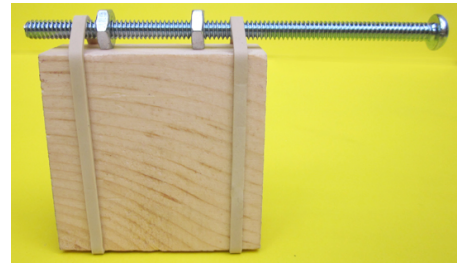

Figure 3
3. Screw the 2 hex nuts onto the machine screw, approximately as shown in Figure 3. It doesn't really matter at this point exactly where the nuts are on the screw, but it is important that they be about an inch apart. Lay the machine screw and hex nut assembly on the top edge of the wood block, with the hex nut nearest the end of the screw about $\frac{1}{2}$ - $\frac{3}{4}$ inch from the edge of the block. Then use two rubber bands to hold the hex nut and machine screw assembly in place, as shown in Figure 3.